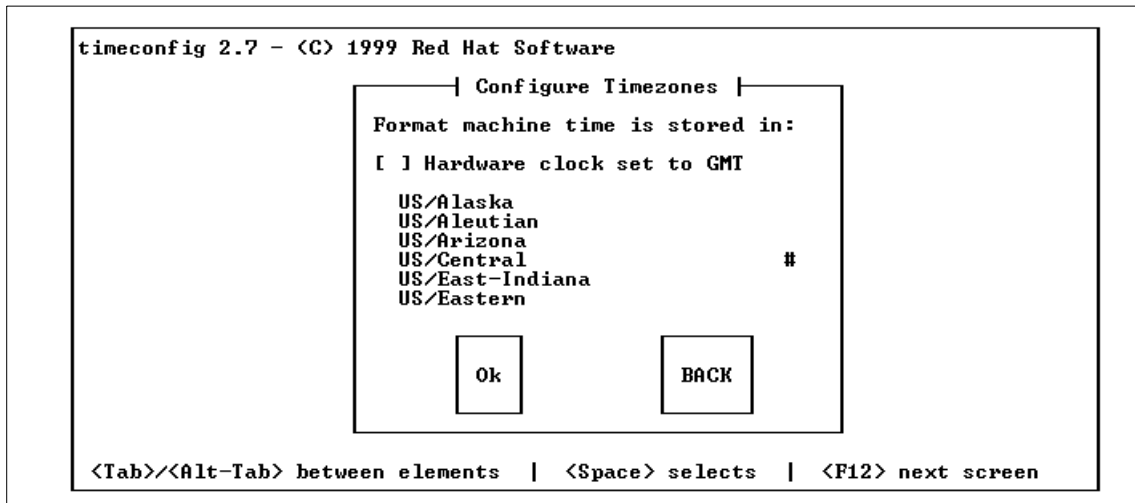

Figure 44. Timezone Configuration
21. Next, configure a timezone (see Figure 44). We selected **US/Central** as our timezone.